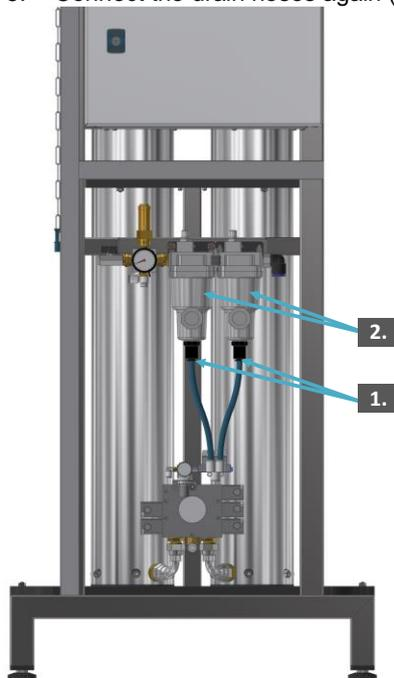

Figure 25. Filters of the nitrogen generator
1. Disconnect the drain hose below both filters (Figure 25 no. 1).
2. Unscrew the bottom half of the filters gently (Figure 25 no. 2), if necessary, use a strap wrench. If there are filters of the brand SMC mounted, use a hex key to loosen the lower half of the filter housing.
4. Mount new filter elements and put the filter housing back together (Figure 25 no. 2).
5. Connect the drain hoses again (Figure 25 no. 1).